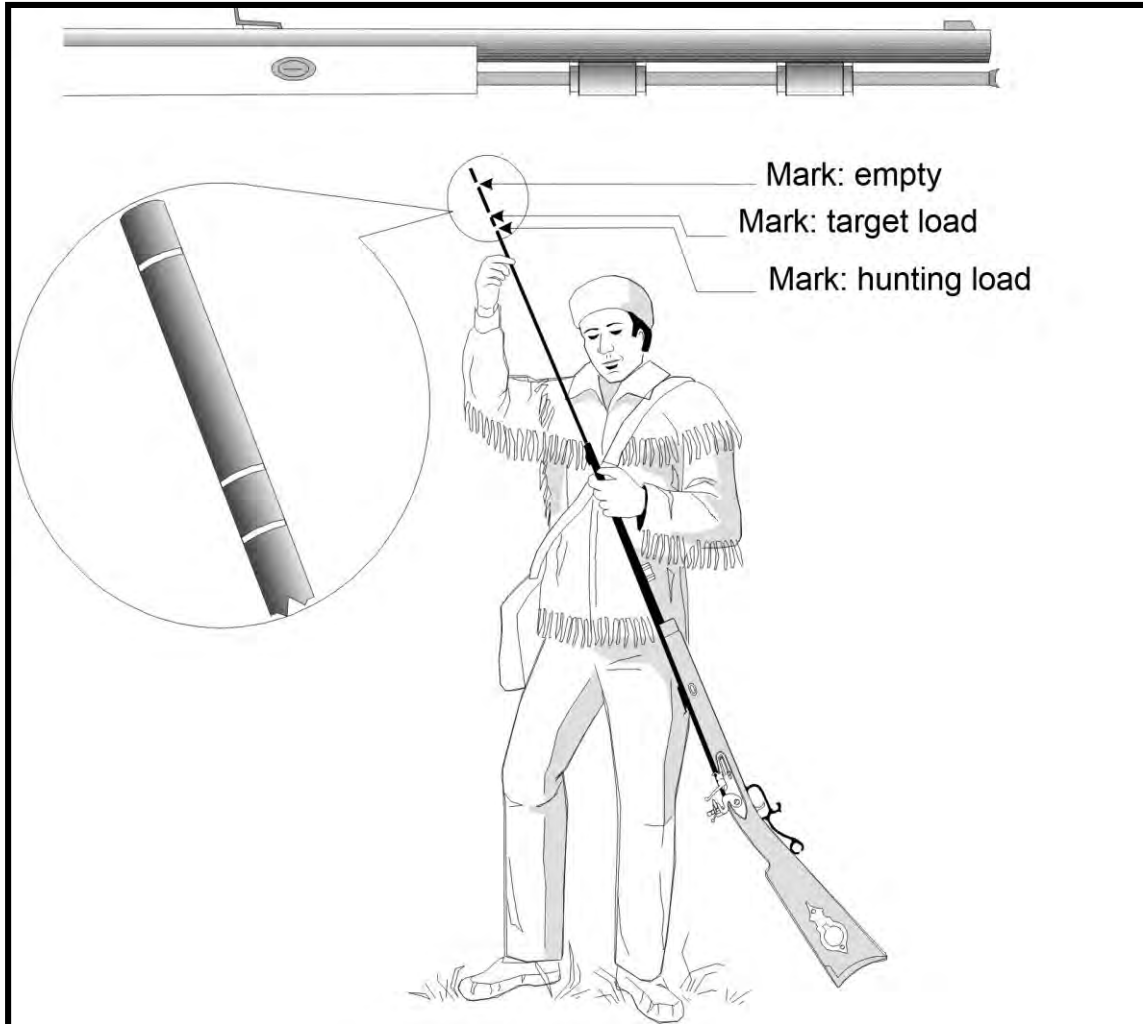

Figure 9. Correctly Marked Ramrod
- c. In addition, it is difficult to tell if there is already a charge loaded into the barrel of a muzzleloader. Experienced shooters mark the firearm's ramrod at a level that shows the bore depth when the bore is empty (Figure 9). When the marked ramrod is inserted into the barrel, it shows whether or not the firearm is loaded.